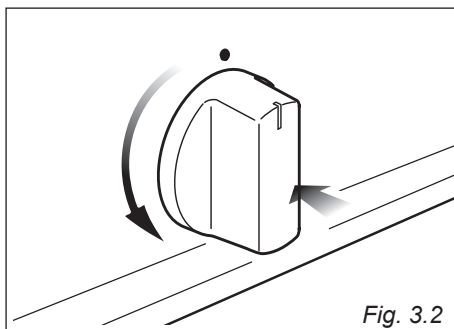

Fig. 3.2
- Connect the wires to the terminal block “B” according to the diagram in figure 3.2.
1. Press in the corresponding knob and turn counter-clockwise (fig. 3.2) to the full flame position marked by the  symbol (fig. 3.1); hold the knob in until the flame has been lit.